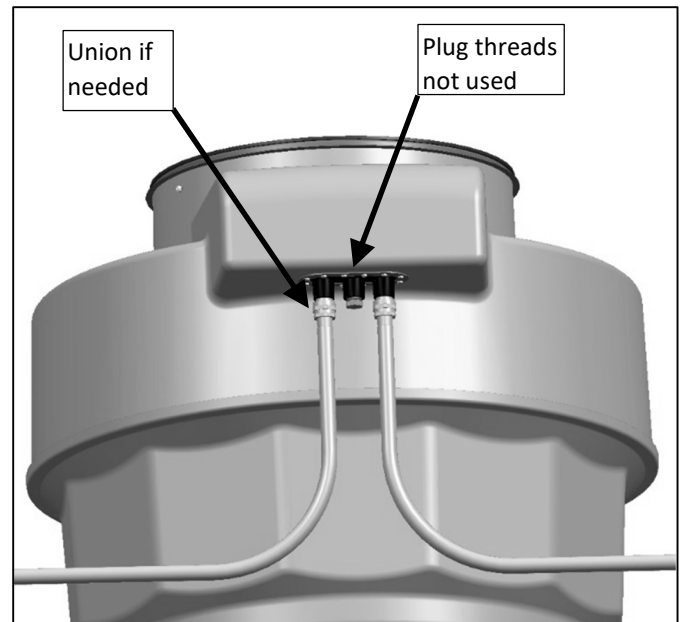

**Figure 15**
**a)** Verify torque on external mounting bolts (7/16" socket). Torque to be 60 in-lbs. See Figure 15.